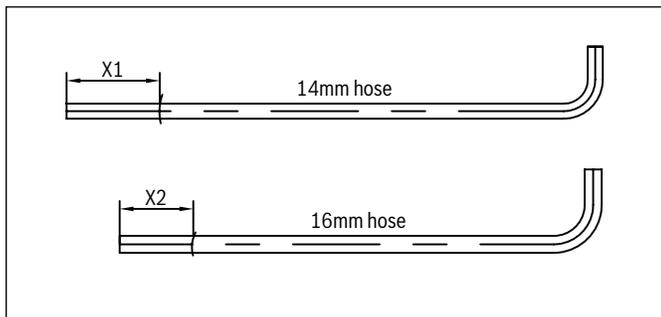

Figure 14
8. Cut and remove 1/4" from the end of the inducer drain port. Reference Figure 14.